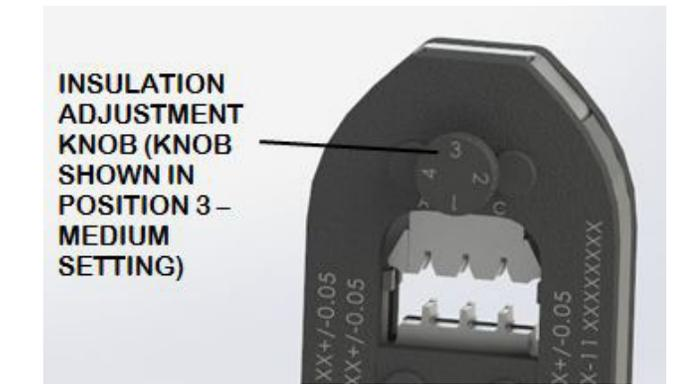

Figure 3
On many tools, the insulation barrel crimp height is regulated by the insulation adjustment knob (figure 3). The insulation crimp should hold the insulation firmly without cutting into the insulation. To determine the proper insulation crimp setting, test crimp a loose piece contact using the setting which corresponds to the insulation diameter: (1)-small; (2) and (3)-medium; or (4)-large. If the crimped insulation barrel is too tight or loose, change the setting by pulling out and rotating the adjustment knob to the desired setting.